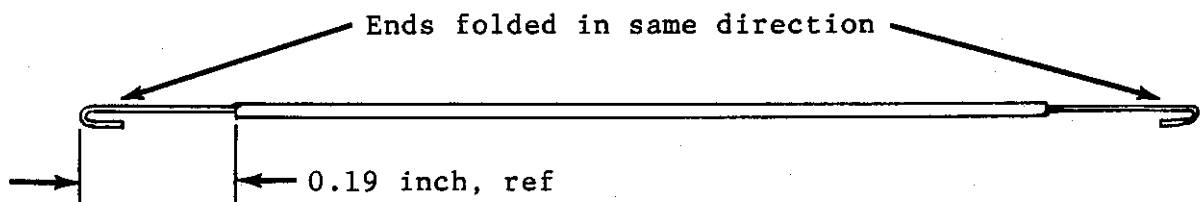

Figure 5-2. FCC Folding Dimensions and Directions
- o Both ends must be folded in the same direction (Figure 5-2).
- o Folding dimensions are shown in Figure 5-2, for reference.